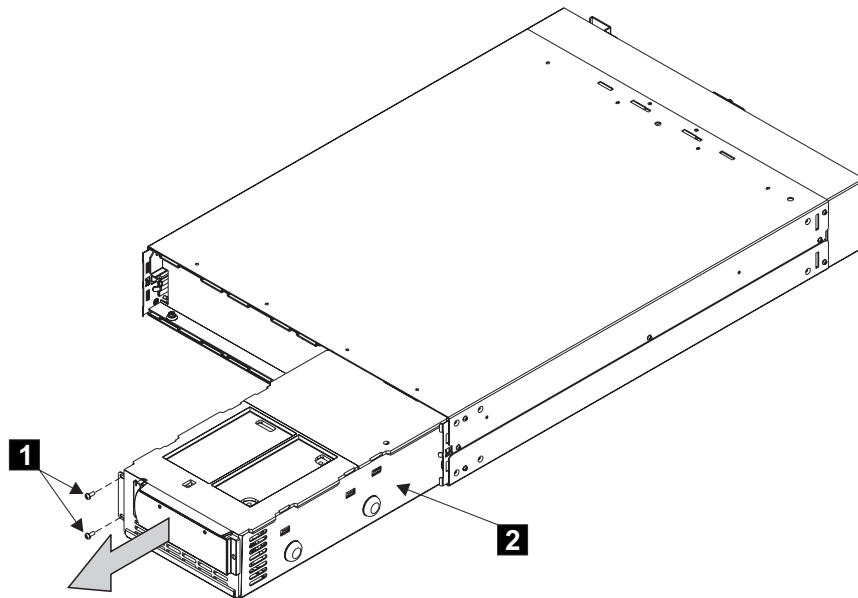

Figure 217. Removing the electronics unit from the 2145 UPS
4. Remove the two screws. See **1** in Figure 217.